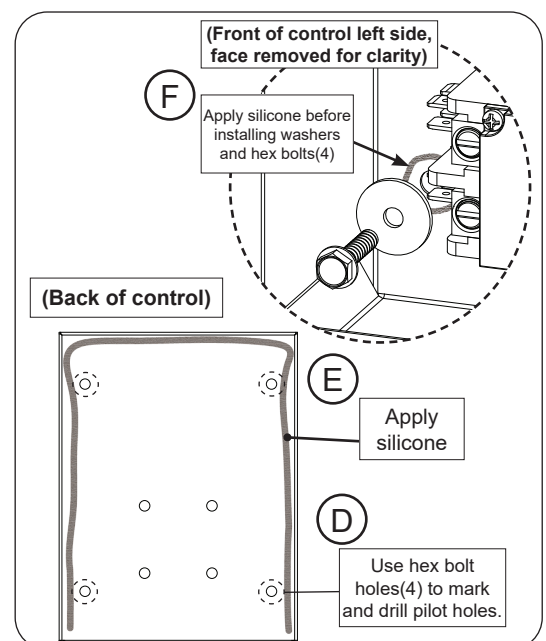

Fig. 3-2 Mount control
5. Mark four (4) pilot holes with the inner component hex bolt holes as a guide and drill into wall. See Fig. 3-2, D.
6. Before mounting onto wall, apply silicone (not supplied), as shown in Fig. 3-2, E and F, to the back and inside of the control.